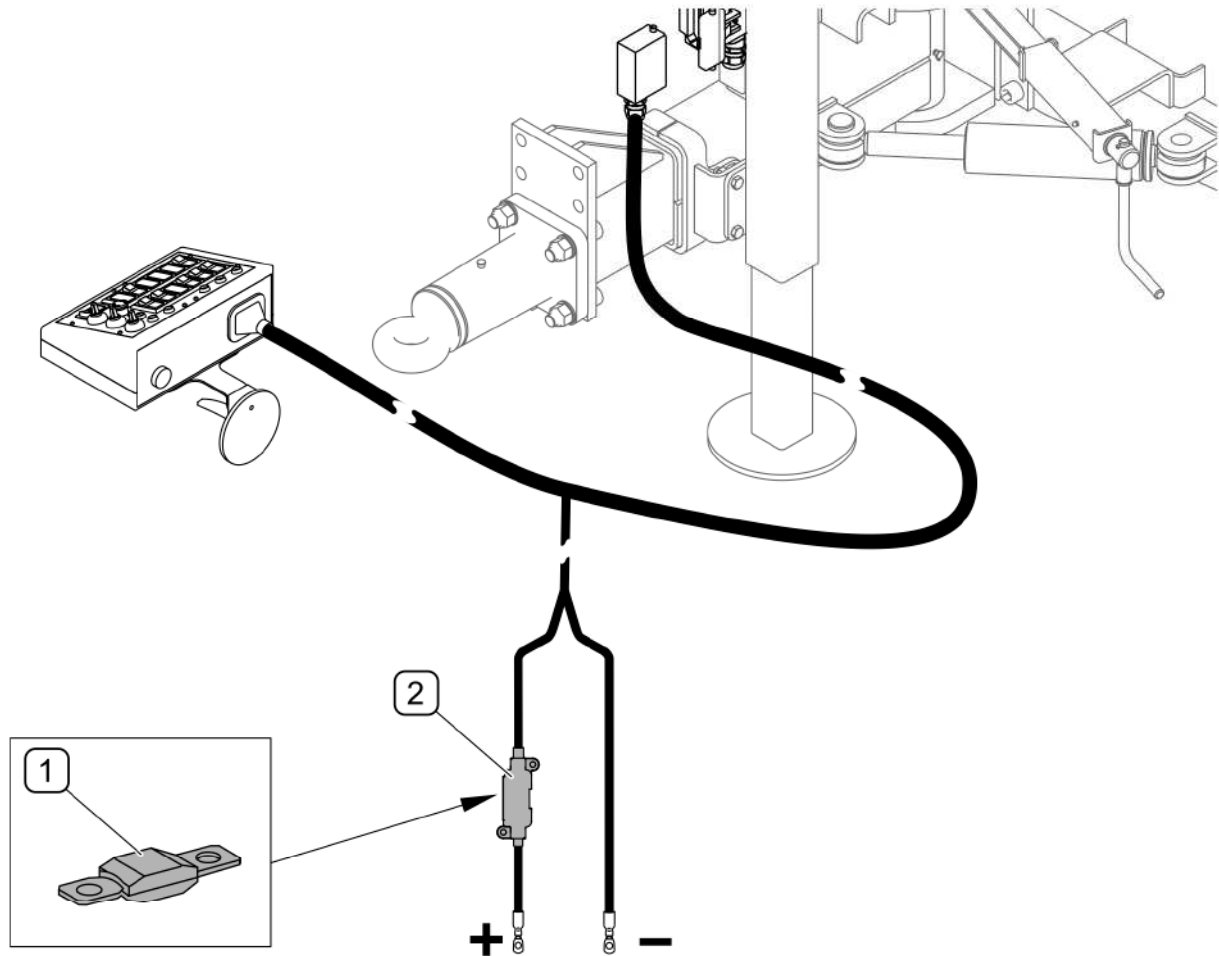

FIG. 5.23 Fuse of the sweeper's power supply
(1) - MIDIVAL 50A fuse; (2) - fuse holder
MIDIVAL 50A fuse (1) is installed in holder (2) on the power lead connected to the positive end of the tractor's battery (FIG. 5.23)